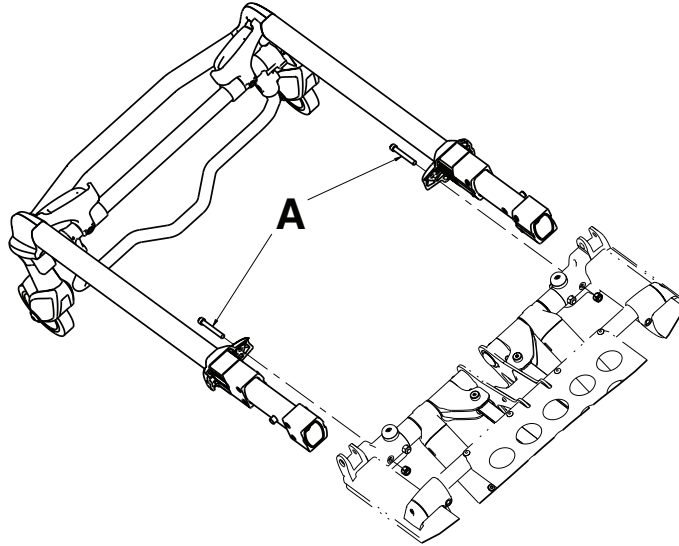

Figure 7 – Head section
2. Using a 7/16" combination wrench and a 3/16" hex wrench, remove the two screws (A) that secure the cap bearings to the base litter interface bracket (one on each side) (Figure 7). Save the screws.